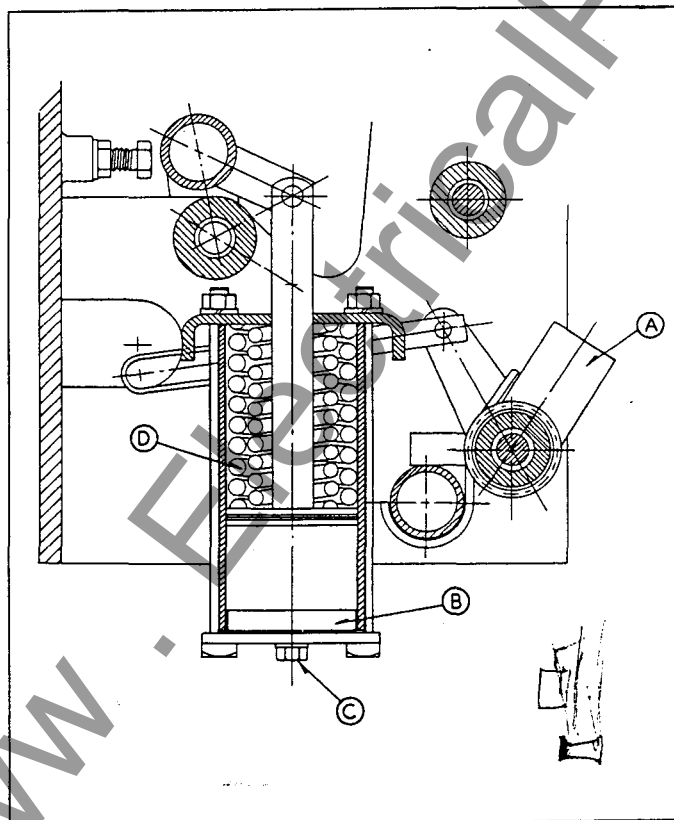

FIGURE 23
4. Manual closing lever. Fig. 23-A.
5. Neoprene pad to reduce shock. Fig. 23-B.
6. Exhaust orifice of shock absorber. Fig. 23-C.
8. Main opening springs. Fig. 23-D.